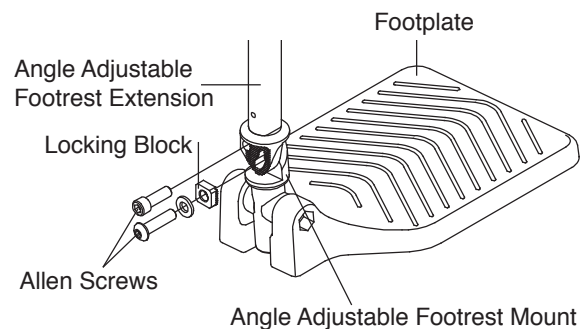

Figure 6
1. Loosen the two Allen Screws that clamp the angle adjustable footrest extension to the angle adjustable footrest mount. See Figure 6.